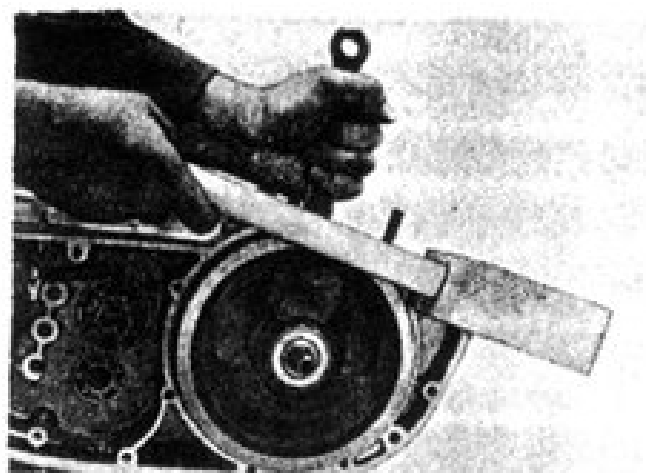

Fig. 17. Removal of crankcase left-hand half from crankshaft half axle, HЖ-П-3 motorcycle.
5. Separate the left-hand half of the crankcase from crankshaft by gentle tapping against the joint face (Fig. 17).